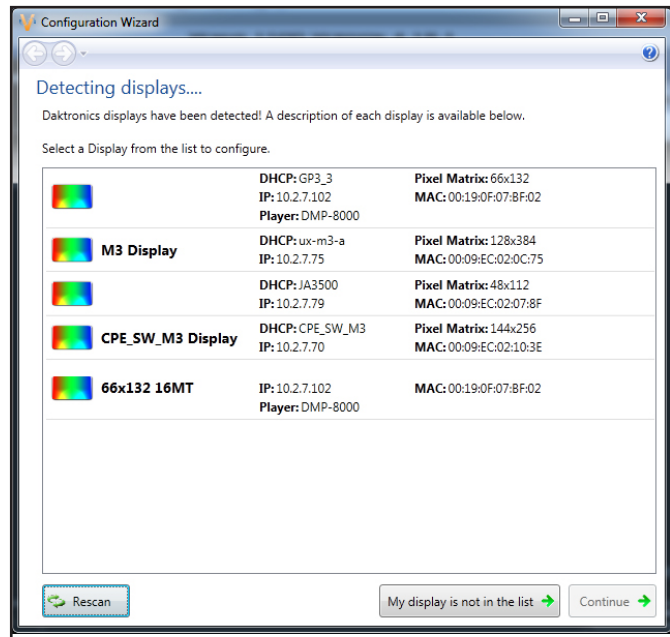

Figure 17: Displays Found List
5. Select the display you wish to configure and click **Continue**, as shown in **Figure 17**.